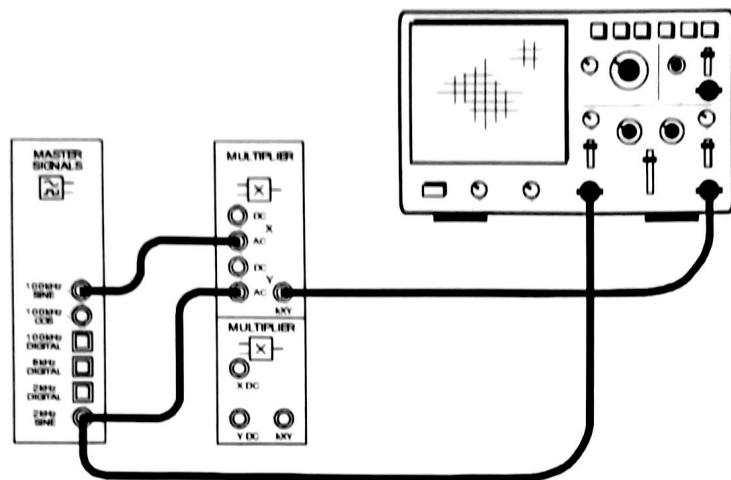

Figure 1
3. Connect the set-up shown in Figure 1 below.